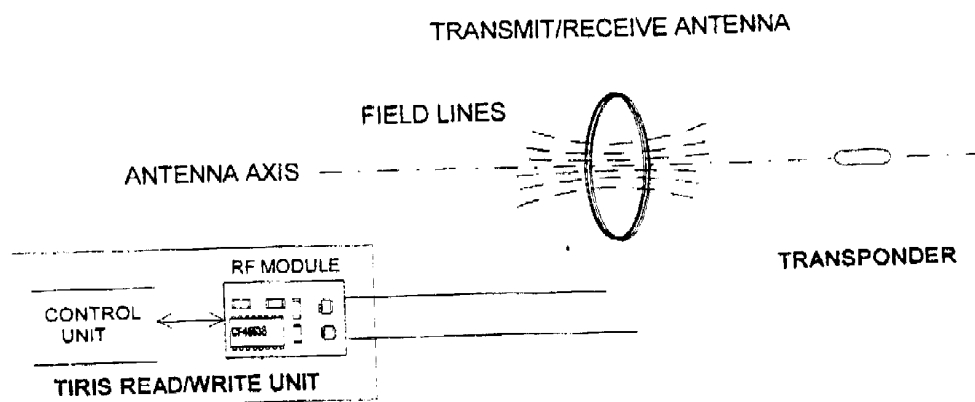

Figure 1: System Configuration Showing the Reader, Antenna and Transponder
The device is available in Read Only (RO) and Read/Write (R/W) versions. Electro Magnetic signals are used to power the passive (batteryless) device, to transmit the identification number to a reader unit or to program the device with new data. The basic principle is described in Figure 1.